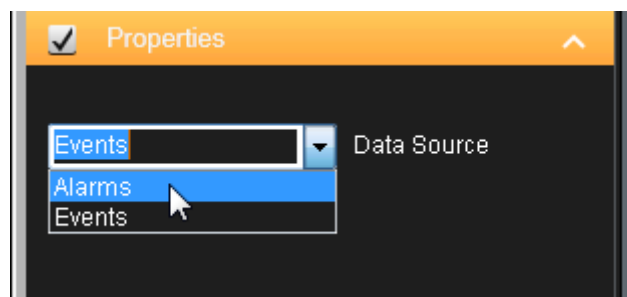

Figure 3: Selecting messages to be displayed in license plate protocol
2. On the **Properties** panel, select **Alarms** option from **Data source** dropdown (Fig. 3).